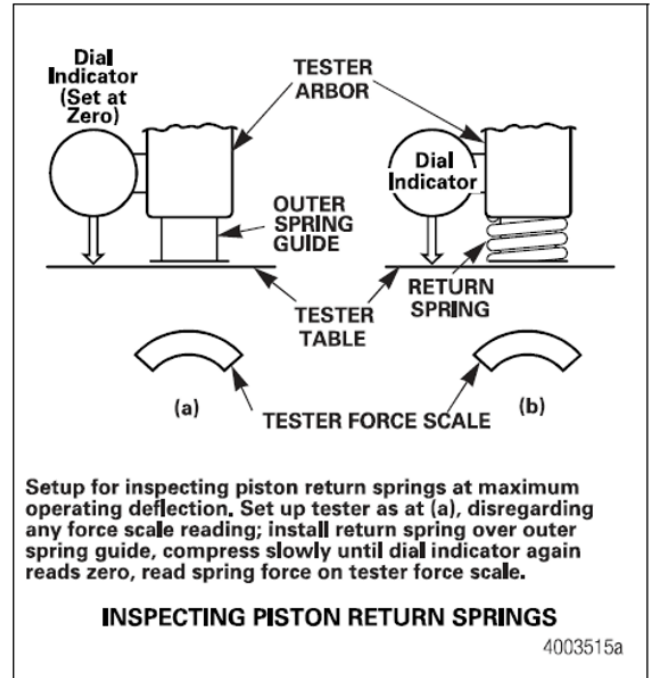

Figure 4.7
2. Measure the spring force at maximum service deflection of a spring tester. Use an outer spring guide for test setup purposes. Figure 4.7.
3. Set up the dial indicator between the tester arbor and the table. Place the outer spring guide under the tester arbor. Lower the arbor firmly onto the spring guide. Disregard any tester reading. Hold the arbor in this position and set the indicator dial to ZERO, as shown in View A. Figure 4.7.
4. Raise the arbor. Place the return spring over the spring guide and lower the arbor slowly until the dial indicator again reads ZERO. Read the spring force on the tester scale, as shown in View B. Figure 4.7.